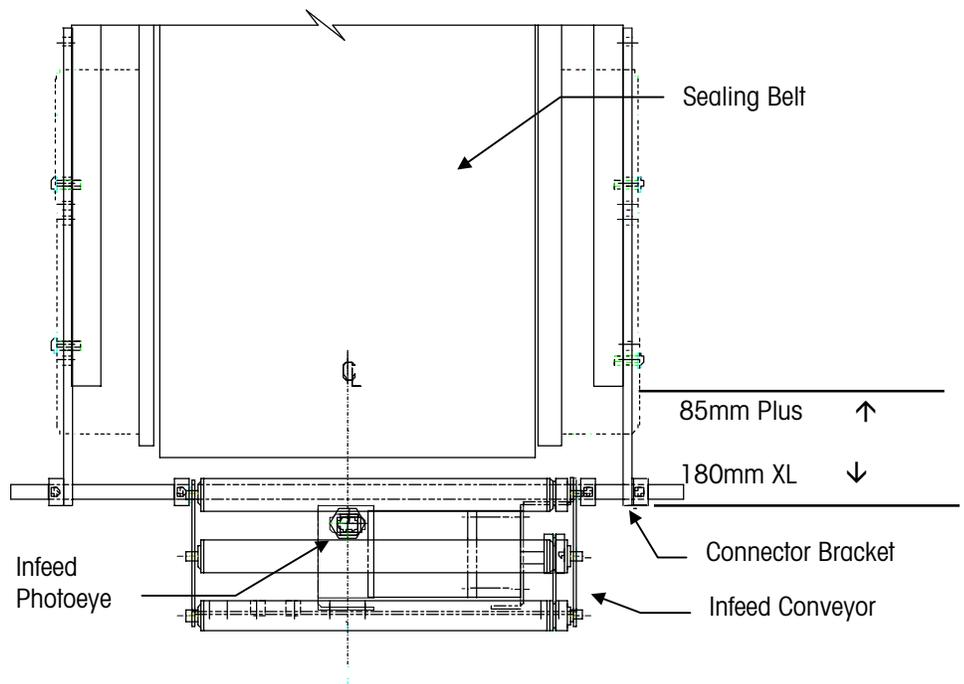

Figure 4-1: Model 645 Wrapper/Model 705 Labeler Connection
- Assemble the two side braces included in the connector bracket KOP and the ABS side covers on the sealing belt support using the four (4) M5 X 16 Phillips-Head capscrews provided. The braces extend out 3 3/8 in. from the sealing belt support on the Solo Plus. The braces extend out 7 1/8 in. from the sealing belt support on the Solo XL (See Figure 4-1).
- Position the Model 705 Labeler so the infeed photoeye is aligned in the center of the discharge sealing belt of the Model 645 Wrapper (See Figure 4-1).
- Attach the Model 705 Labeler to the Model 645 Wrapper by inserting the retaining bar included with the connector bracket KOP through the side braces and the slotted holes in the infeed bracket of the Model 705 Labeler. Secure with the set collars provided (See Figure 4-1).